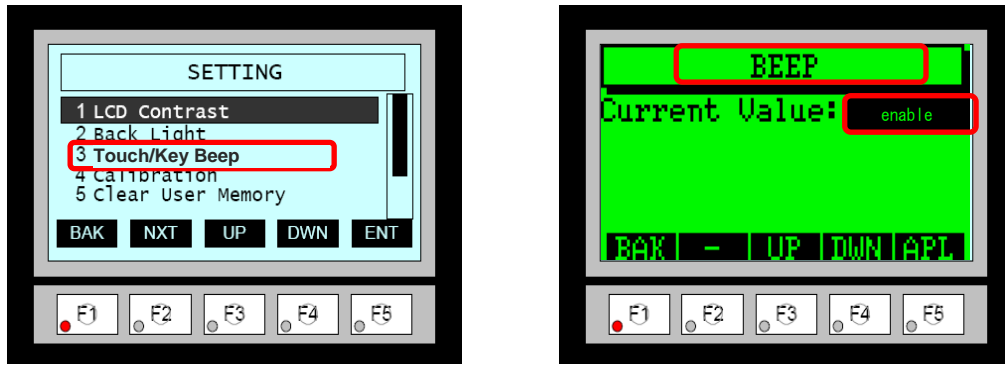

Figure 4
- the System Screen on the panel hardware (Figure 4), or